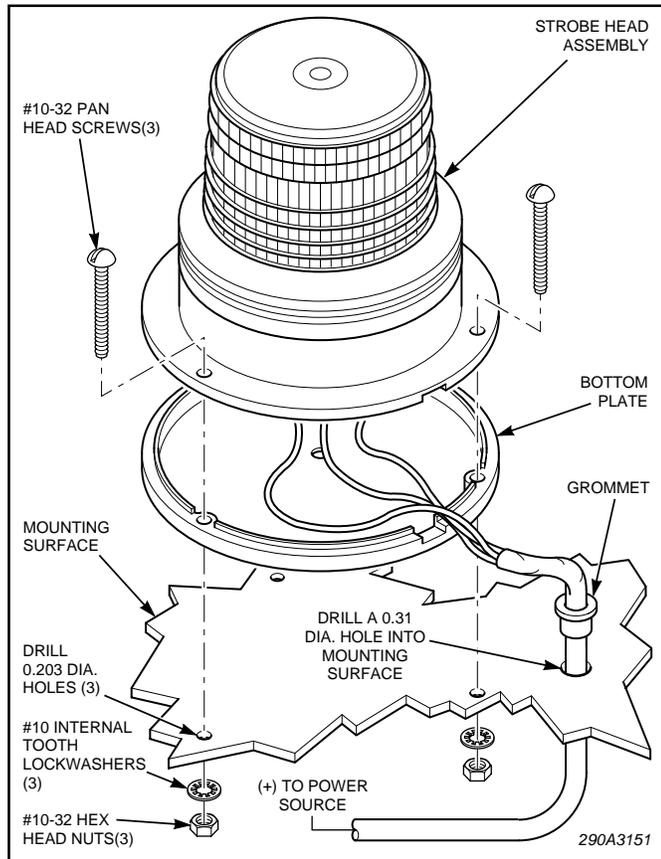

Figure 1.
F. Route the 3-conductor cable (supplied in the cable extension kit) through the grommet. Allow approximately 10-inches of exposed cable to perform the electrical connections. See figure 1.
J. Secure the bottom plate and the light to the mounting surface using the #10 screws, lockwashers, and nuts. Ensure that excess cable is trapped between the bottom plate and the light. See figure 1.